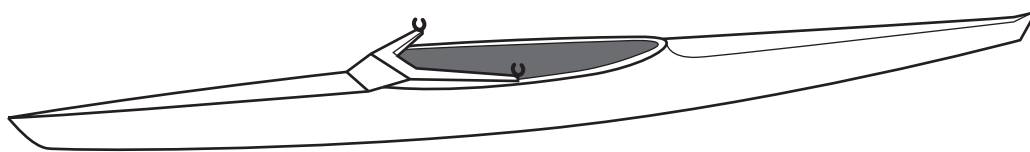

Figure 5
- 3 Figure 5 shows a sports rowing boat manufactured from fibreglass, which is a composite material.